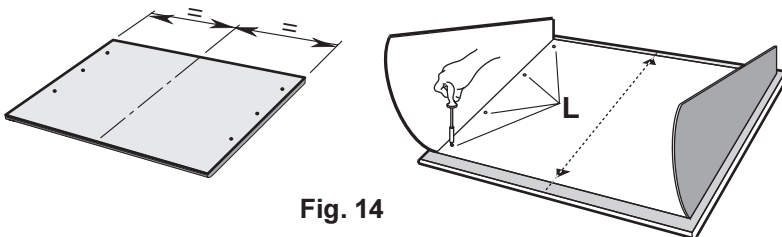

Fig. 14
- Draw a line with a pencil on the middle of the internal side of the furniture door. Fig. 14.
- Fasten the visor to the furniture door through the 8 screws **L** 4,5x13 mm supplied. **Fig. 14**.